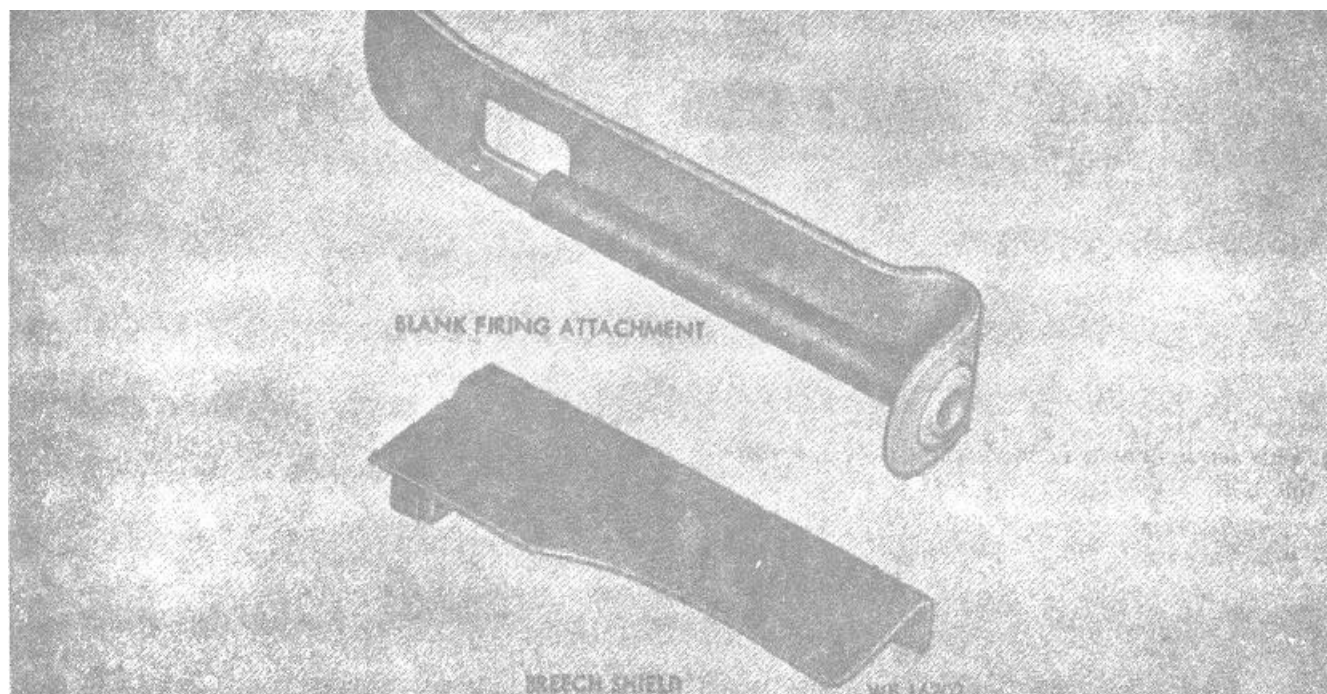

Figure 3-1. Blank ammunition firing attachment and breech shield.
b. Removal/installation. Refer to figures 3-1 and 3-2.